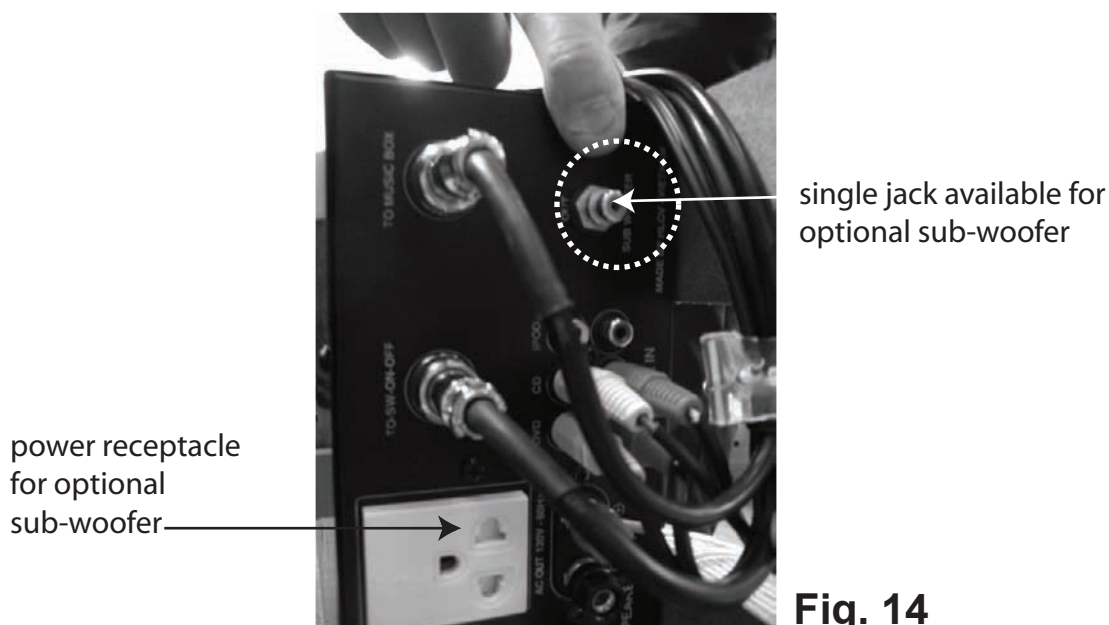

Fig. 14
- 14. OPTIONAL STEP.** The gold socket seen above is available as a connection to your sub-woofer. Plug the RCA jack from your sub-woofer into the gold socket and plug the power cord from your sub-woofer into the power receptacle. See Figure 14.